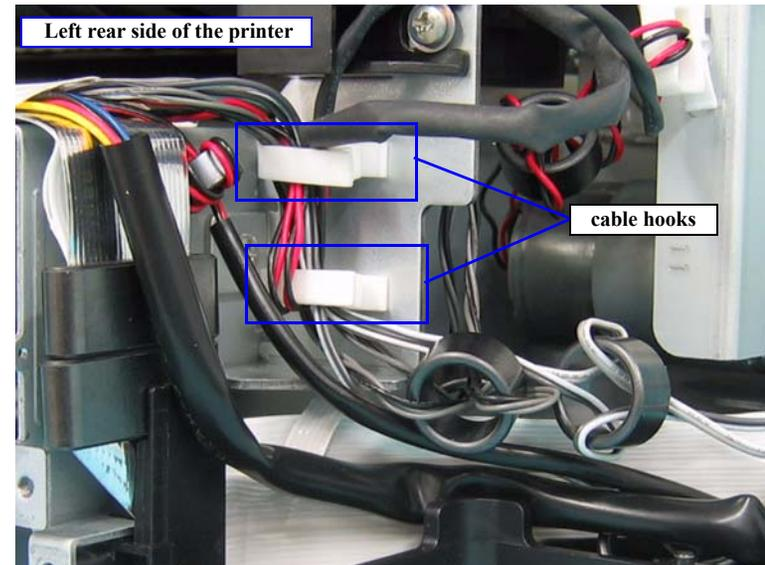

Figure 4-132. Releasing the MOTOR, RELEASE, ASSY. Cables (2)
5. Release the cables of the parts listed below, which are components in the MOTOR, RELEASE, ASSY. from the two cable hooks. *See Figure 4-132.*